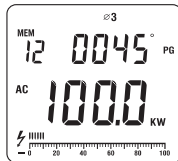

Figure 13
- After sum up the current power measurement value of the second phase, then press **SELECT** again to choose the third phase  $\varnothing 3$ , as figure 13.